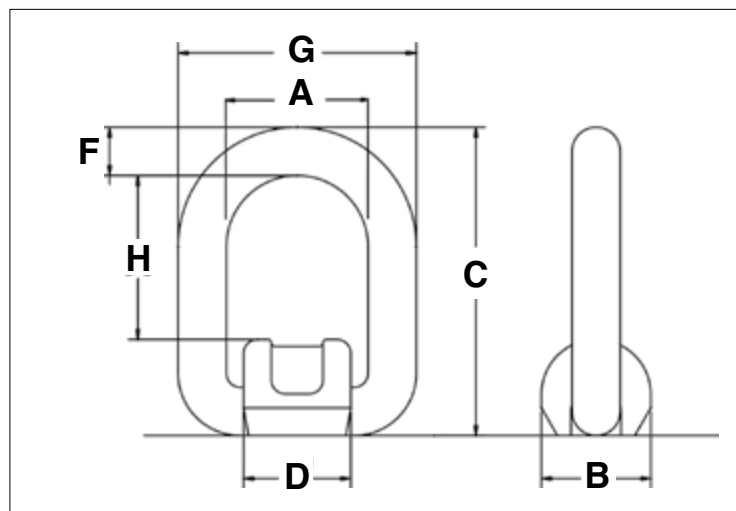

Figure 5
- F. Weld full length of "D" dimension on both sides of link base (Figure 5).